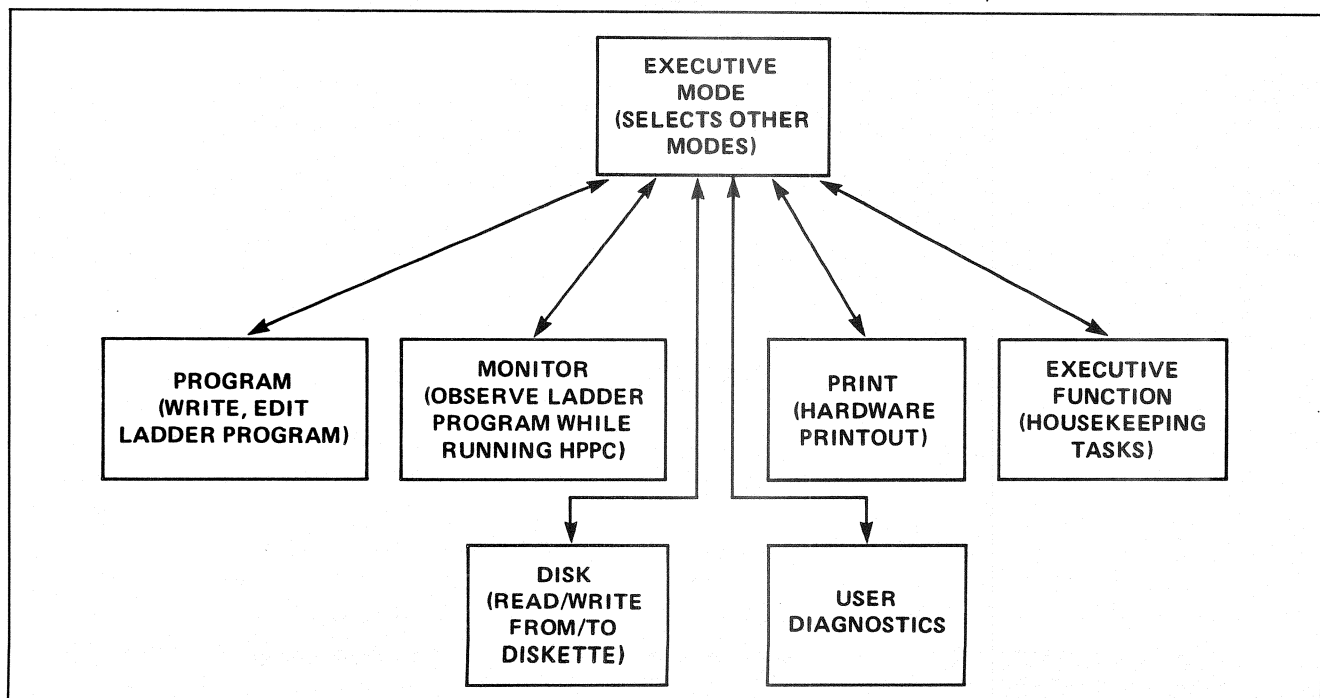

Figure 4-1. Modes of Operation
- **Modes of Operation.** The modes of operation are divided into the 7 logical divisions of tasks. (See Figure 4-1.) The Loader is always in one of these modes when the Westinghouse software is being executed. Each of these modes is described in more detail in Paragraph 4-2 of this Section.